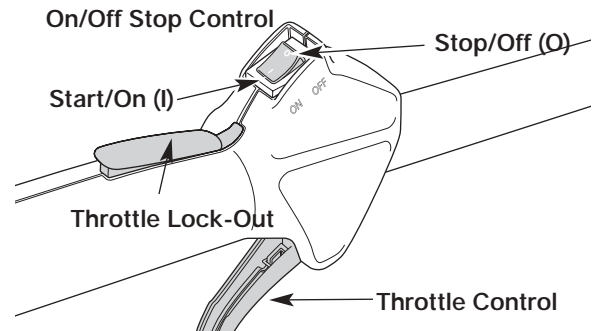

Figure 16
2. Make sure the On/Off Stop Control is in the **ON (I)** position. See Figure 16.
2. Push and hold the On/Off Stop Control in the **OFF (O)** position until the engine stops running. See Figure 16